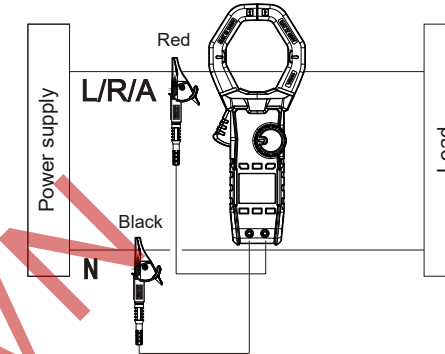

Fig. 12
6. Set the mode of electric energy accumulation (Fig. 12)